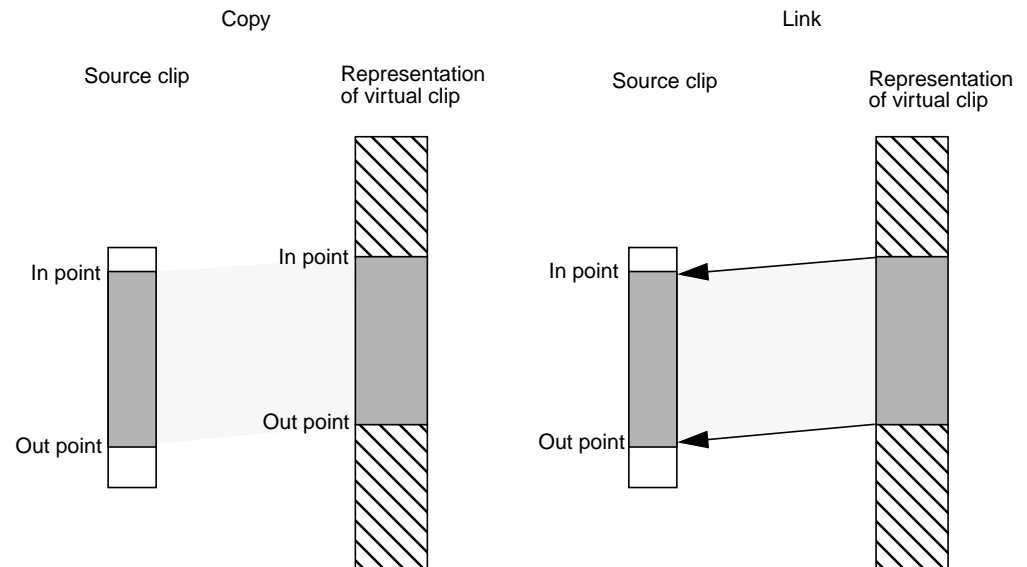

Figure 6-3 Copying Versus Linking; Where Segment Data is Stored
- The value `FCP` copies the segment data (the in and out points, for example) from the source clip to the target vclip, as shown in Figure 6-3.
- The value `FLN` links the segment data in the source clip to the vclip, as shown in Figure 6-3.